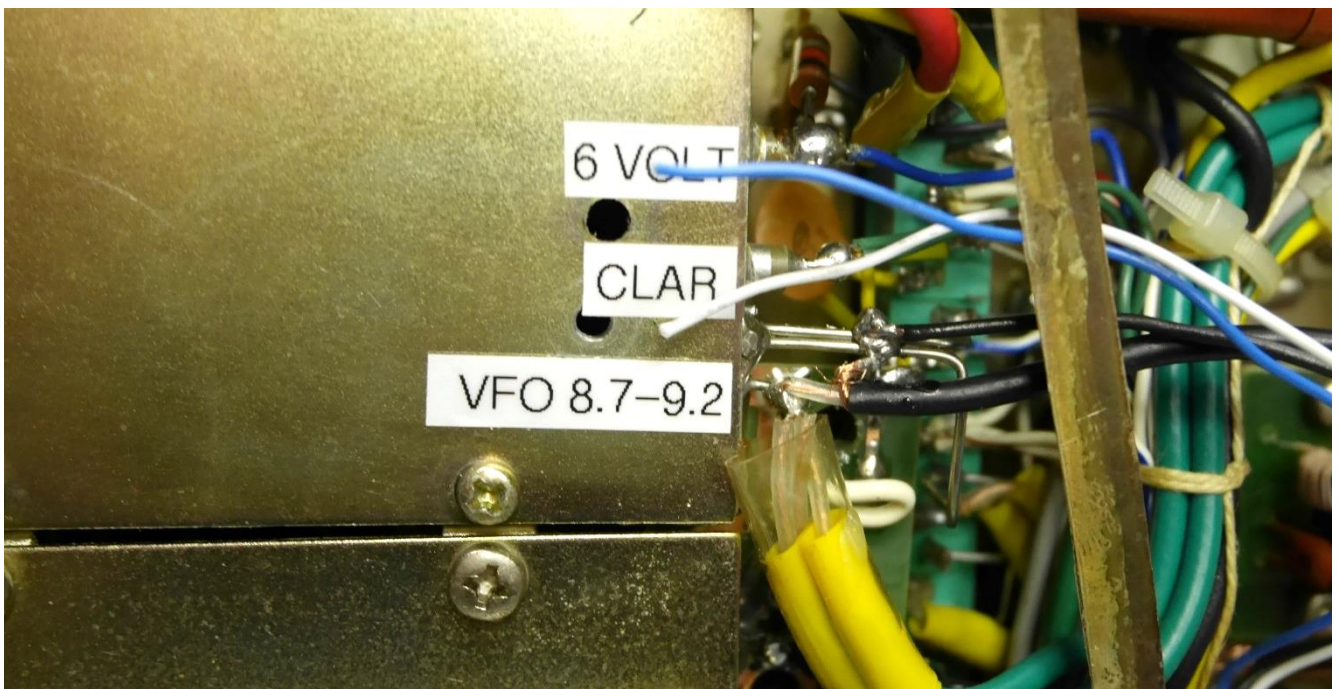

Figure 7- Connections to the VFO
- (1) Cut wires on left side of EL-34 to approximate length. Note there is a ground between every connection. Since the wires are short and all go to the same basic place, I opted to leave off one ground as it would be redundant in this application.
- (2) Cut RG-174 (or equivalent) to length leave short service loop, and solder the center conductor to the VFO output pin. Remember any wire cut to length will be to short! Solder the braid to the convenient ground lug sticking off of VFO. This is where the two coaxes with yellow sleeves go. Basically, just hook in parallel with these coaxes.
- (3) Unsolder wire from pin labeled CLAR in Figure 7 which comes from the wiper of the CLAR pot. Solder this wire from the CLAR pot to the wire coming from pin 2 (CLAR In) of the EL-34. Use heat shrink to insulate. Solder the wire from pin 4 (VAR, Control Voltage Out) of the EL-34 to the lug labeled CLAR on the VFO Figure 7. The EL-34 runs in series with the CLAR wire.